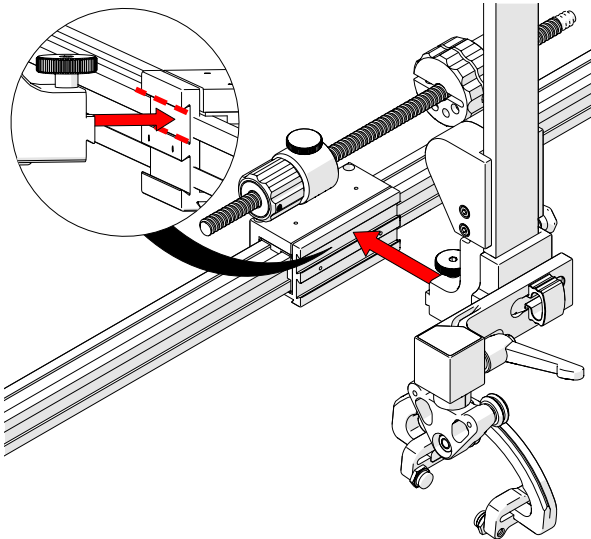

Fig. 43 - Mount to slider pps
2. Loosen the probe holder adjustment knob to attach the encoded skew vertical probe holder to the slider pps slider (Fig. 43).